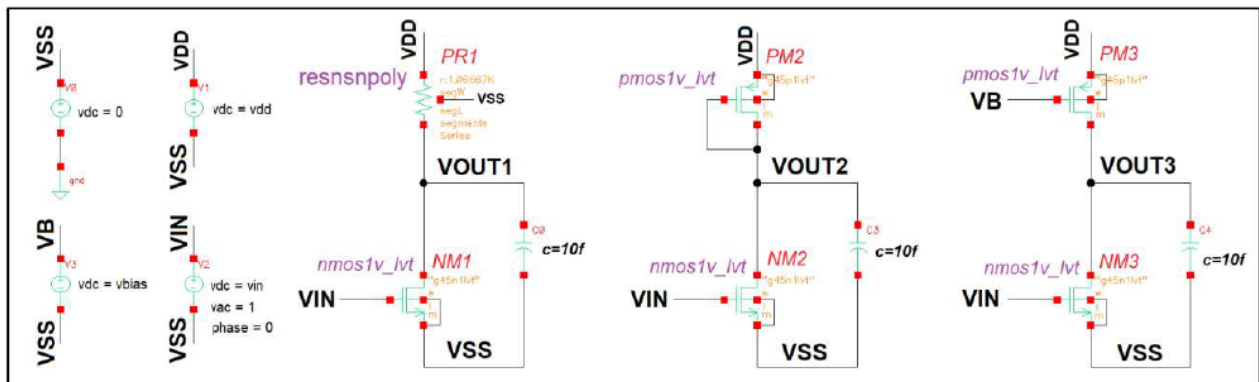

Figure 10. Common source stage schematic for DC and AC analysis
3.3. Instruction: Assemble the circuit as shown in **Figure 10**, setting parameters for power supplies (using **vdc** source), with $L_n = L_p = 45\text{nm}$, $W_{n,\text{unit}} = W_{p,\text{unit}} = 120\text{nm}$, $v_{dd} = 1.0\text{V}$, $V_{in,DC} = 0.65\text{V}$, $C_{load} = 10\text{fF}$, $v_{in,AC} = 1.0\text{V}$, phase = 0.